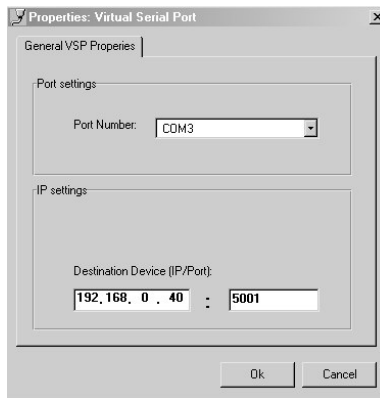

Figure 13: The Virtual Serial Port Properties Window
2. Press the **Add VSP** button to add a serial port and type the IP settings according to the IP address and local port of your **VS-42HC** (see Figure 13).